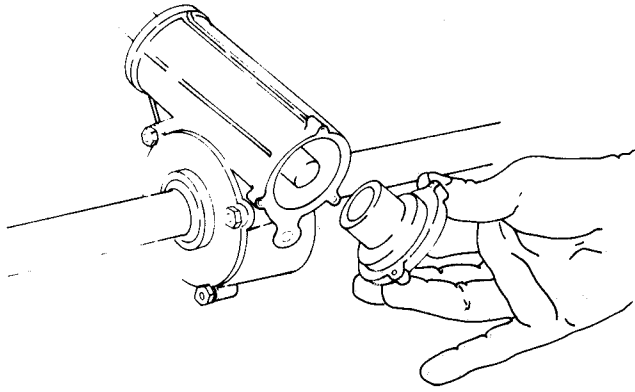

FIGURE 3.18 — REMOVING END CAP
**STEP 1.** Remove the three end cap retaining screws, tap the edge of the cap outward lightly to break the paint seal then slide the cap off. (Figure 3.18).